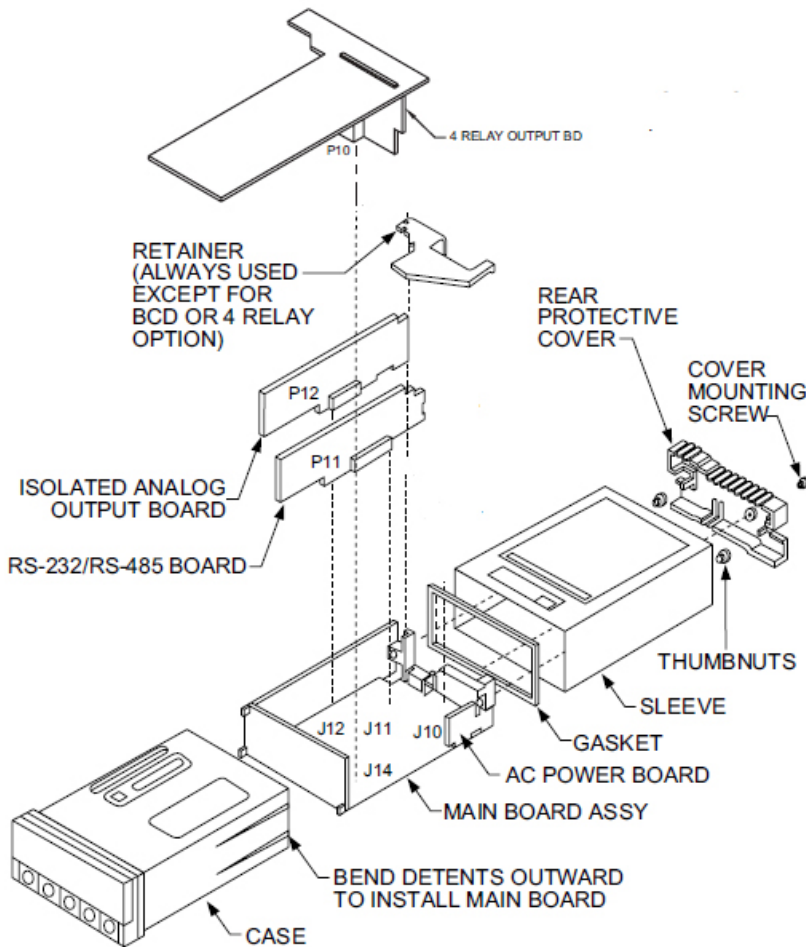

Figure 5-4. Optional Printed Circuit Board Locations
2. Using Figure 5-4 as a reference, insert option board(s) into the corresponding slot(s) on the main board. Each circuit board is keyed to fit in its own position.